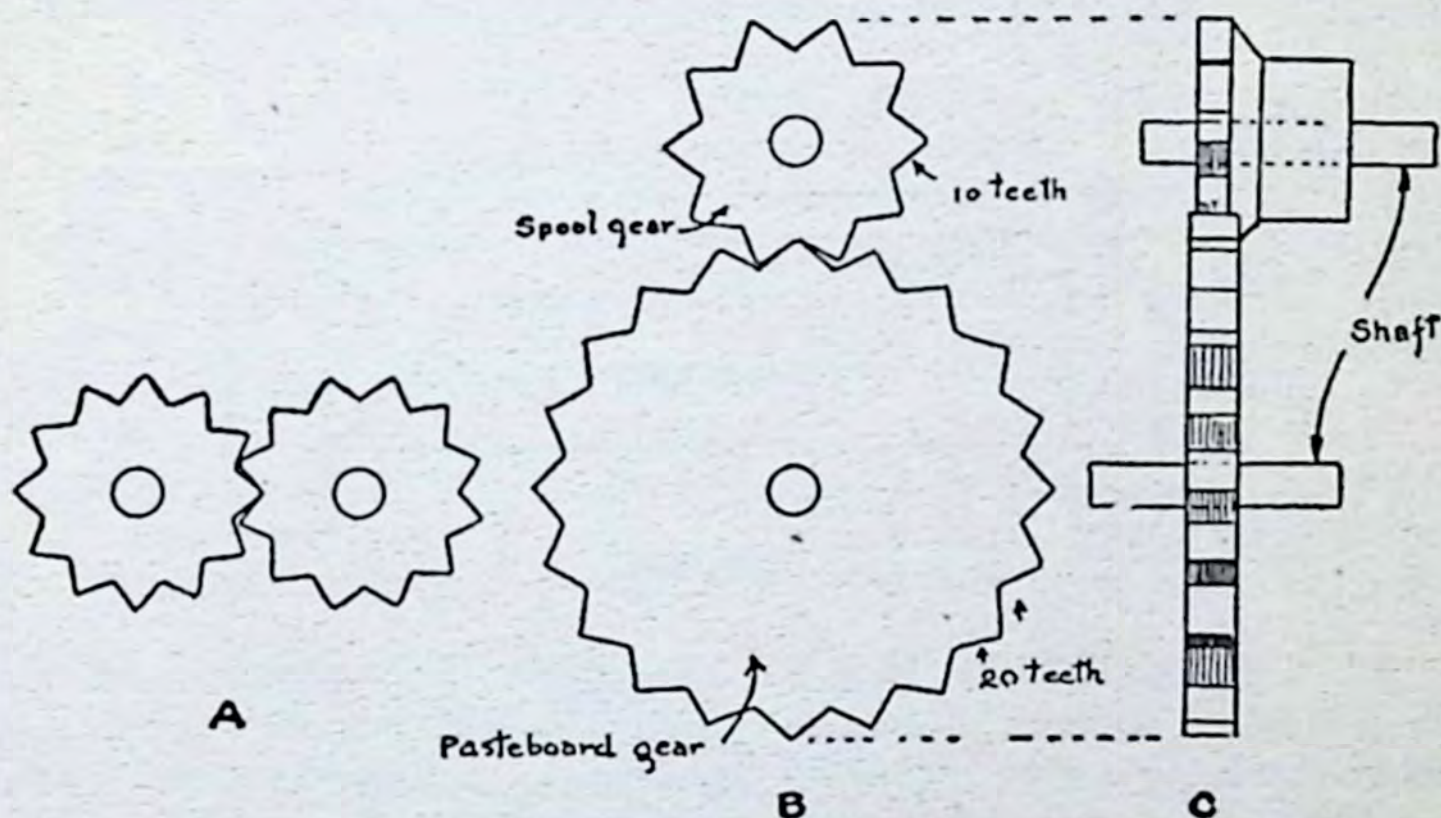

Fig. 46
(52) **HOW TO MAKE GEARS:** Gears are wheels with teeth cut in their faces so that they mesh, as shown at A in Fig. 46. You can make gears that will increase or reduce the speed of your motor by using a spool